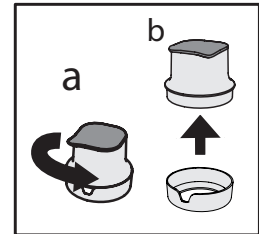

Fig 5
- Remove the funnel from the filter housing rotating it anticlockwise (**Fig 5. a - b**).
Then mount the bottle balcony on the water tank and assembly them on the door as suggested in (Fig 15). Once assembled, mount the filter with the carbon cartridge (as described in Fig 5,6,7,8).